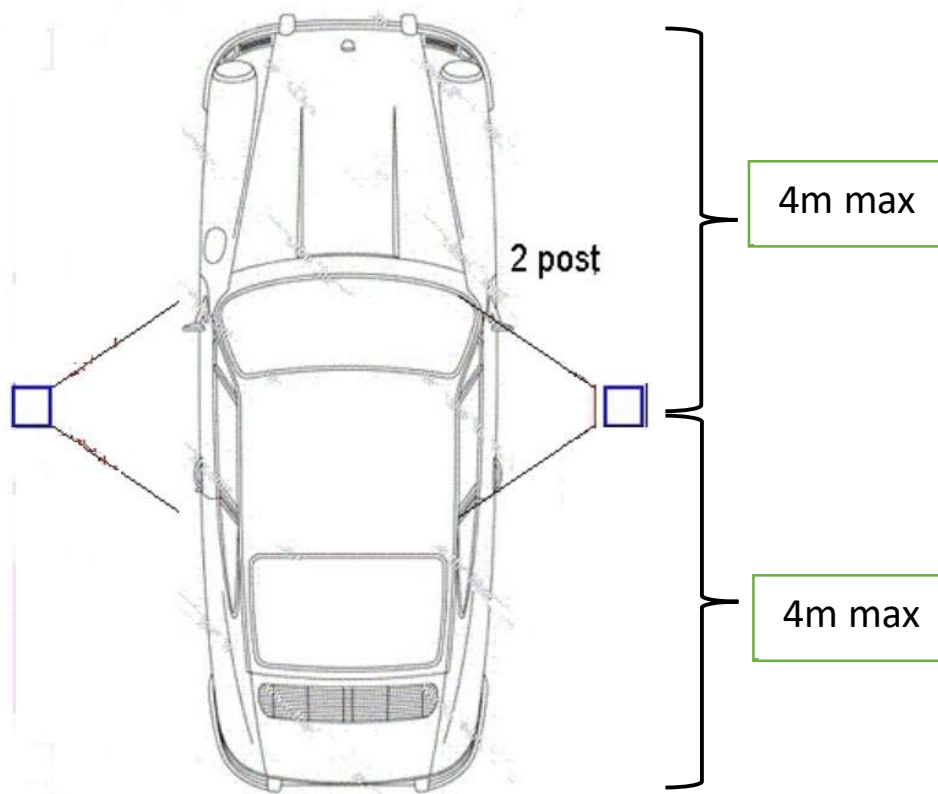

Figure 10
- The front and back of the lift should be reserved with sufficient space to accommodate all the vehicles (Fig. 10).